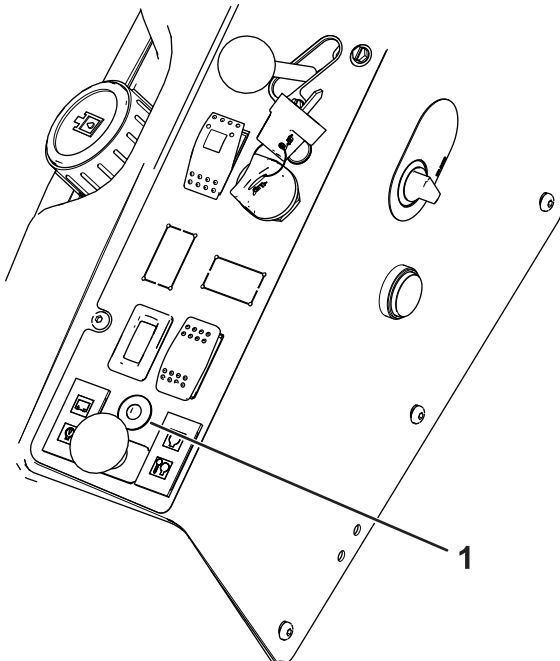

Figure 11
- i. The LED light (Figure 11) blinks as the sensor calibrates.
The light and alarm indicates the severity of the slope (Figure 11):